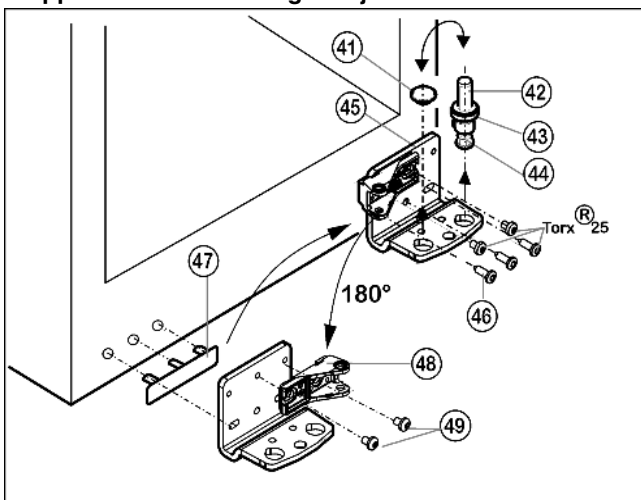

Fig. 12
- ▶ Lift out the bearing pin Fig. 12 (42) together with washer Fig. 12 (43) and adjustable-height foot Fig. 12 (44).
- ▶ Lift out the stopper Fig. 12 (41).
- ▶ Unscrew Fig. 12 (46) the turn hinge Fig. 12 (45).
- ▶ Unscrew the bearing element Fig. 12 (48), turn it through 180° and screw it firmly into place again inside
- ▶ Carefully lift off the cover on the handle side Fig. 12 (47) and transfer it to the opposite side.
- ▶ Screw the bottom turn hinge Fig. 12 (45) firmly into place (with 4 Nm) on the new hinge side, possibly using a cordless screwdriver.
- ▶ Re-insert the stopper Fig. 12 (41) into the other hole.
- ▶ Re-insert the bearing pin Fig. 12 (42) together with the washer and adjustable-height foot. In so doing, pay attention that the locating lug points backwards